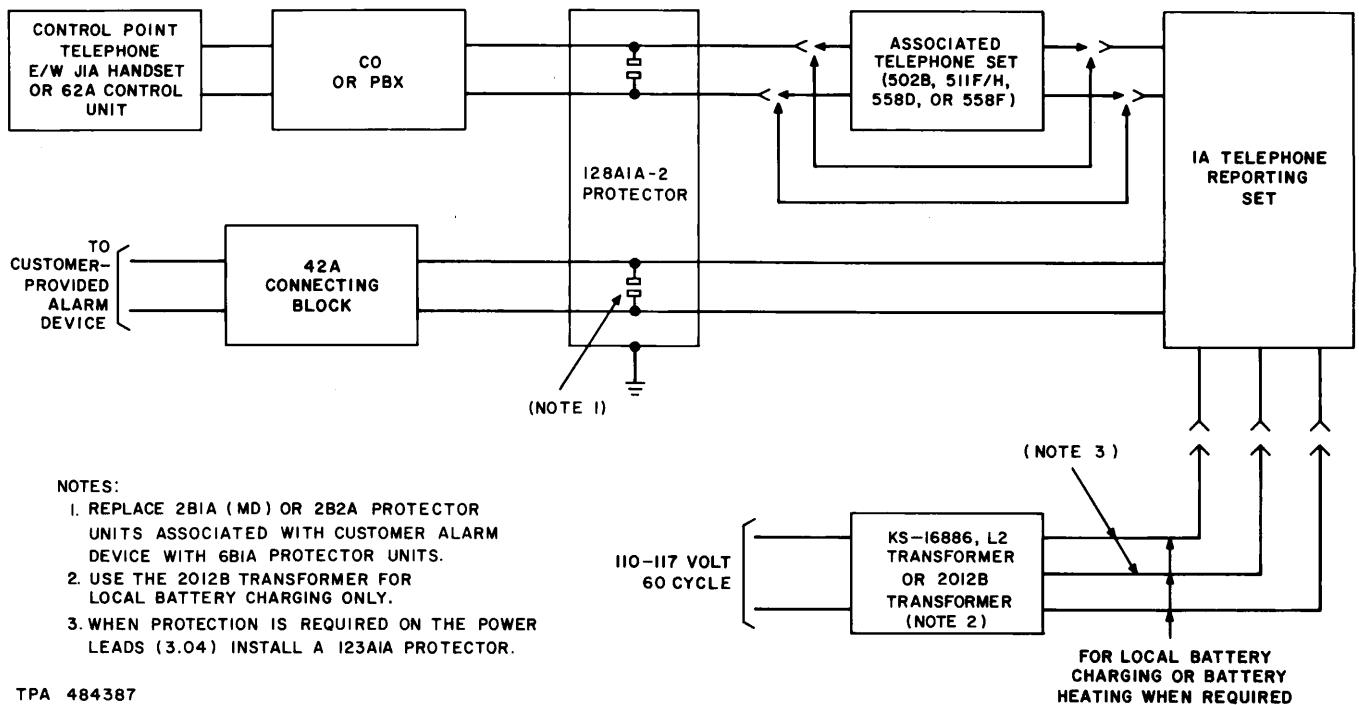

Fig. 5—Block Diagram of Typical Installation
3.07 Leads associated with the customer-provided detecting (alarm) device should be wired from the telephone reporting set through a 128A1A-2 protector and terminated on a 42-type connecting block (Fig. 5). The connecting block provides a termination for the wiring from the detecting device and marks the division of customer and telephone company responsibility.